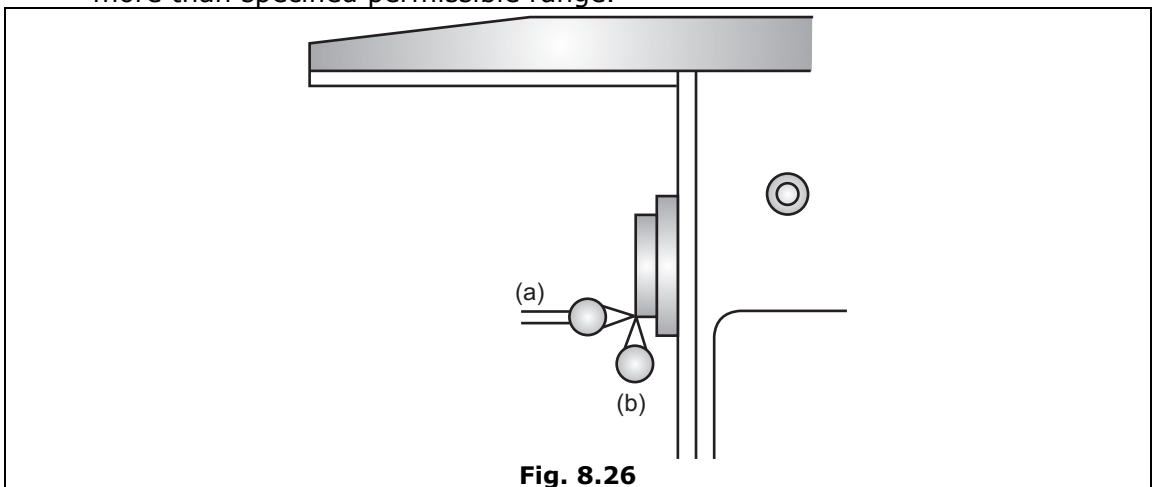

Fig. 8.26
- Clamp the dial gauge stand to table, such that, the plunger or feeler of dial gauge indicator is touching the face of locating spindle shoulder. [Refer Fig. 8.26].